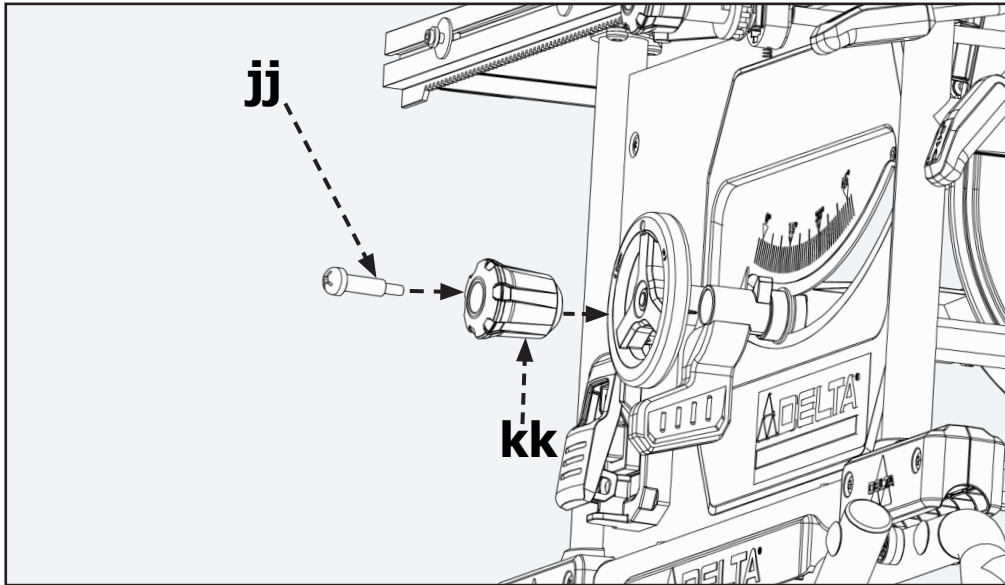
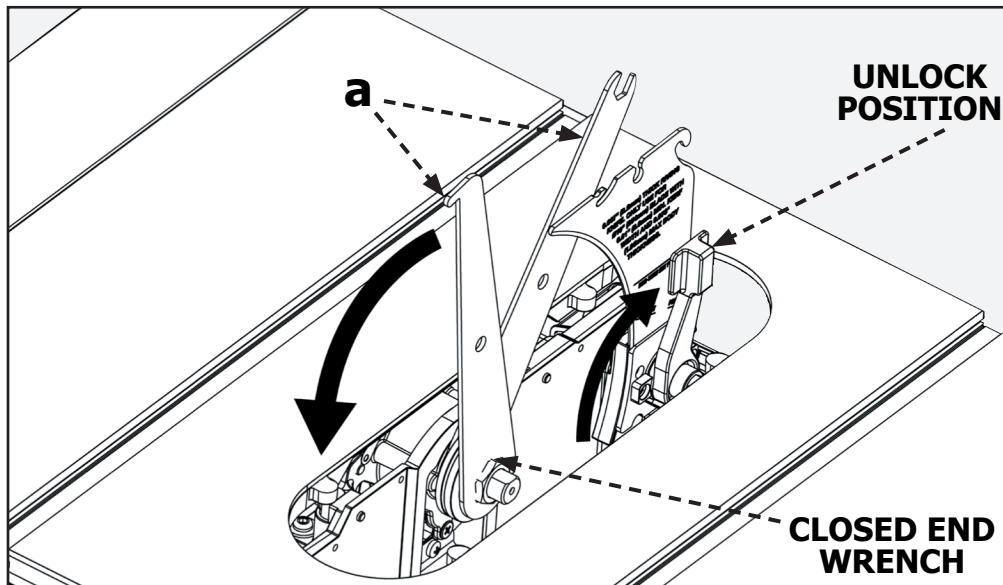

FIGURE 11
FIGURE 12
1. Insert wheel handle shoulder screw (jj) into height adjustment wheel knob (kk) as shown in Figure 11.
After installing height adjustment knob as shown in Figure 11, raise motor/arbor assembly to the upper most position to provide easy access to riving knife lock lever and arbor assembly. Ensure riving knife lock lever is in unlock position. See Figure. 12. Detach the on-board wrenches located on the right side of the saw by loosening and removing M8 wing nut. Place the open-ended wrench (a) on the spindle shoulder between the arbor flange and inner flange. Place the closed end wrench (a) over the arbor nut. Holding the spindle shaft in place, loosen and remove the arbor nut and arbor flange. See Figure 12. **NOTE:** Use only 10" (254 mm) diameter blades with 5/8" (16 mm) arbor holes, rated at 5,000 rpm or higher, 0.10" (2.6 mm) min. kerf width and 0.073" (1.85 mm) max body thickness. Only use 10 in. blades designed for woodcutting. Use only a saw blade diameter in accordance with the markings on the saw.